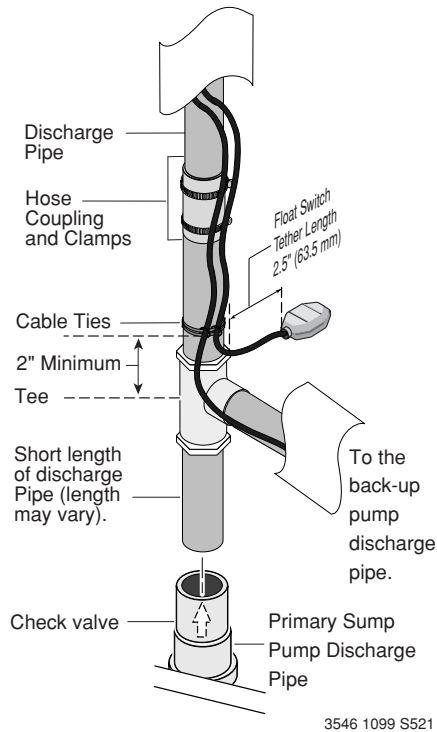

**Figure 3 - Remove the pre-assembled check valve**
2. Remove the check valve assembly (Key No. 4 on Page 13) from the battery back-up pump (Key No. 5) discharge and set it aside. See Figure 3. The check valve assembly will be used later, during assembly.
**NOTICE:** Make sure the check valve is installed in the correct direction. See the inset drawing in Figure 3.